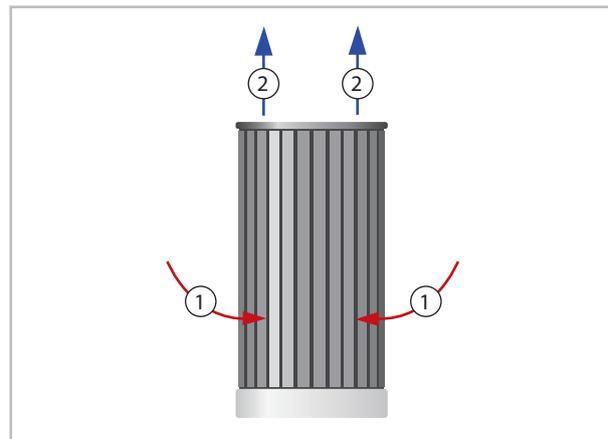

Fig. 22: Air intake and air outlet on outdoor module
- Air suction takes place in the bottom area of the plate heat exchanger. Air outflow takes place upwards in a perpendicular direction (Fig. 22).